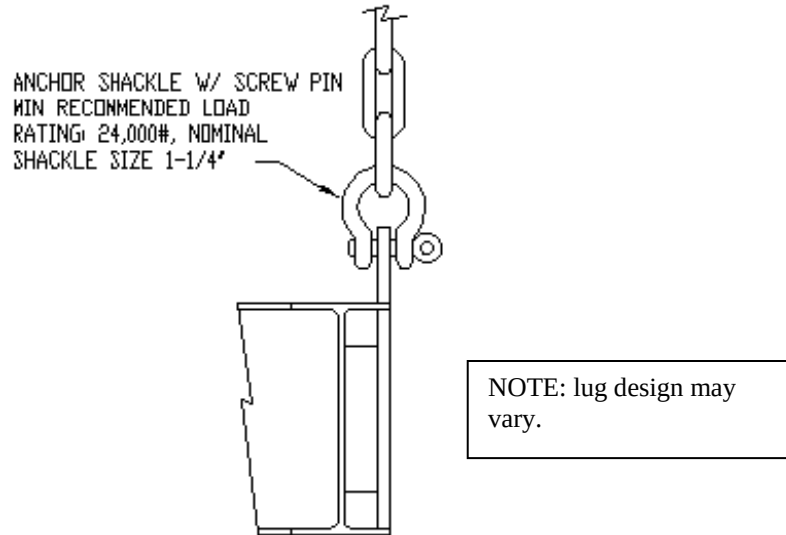

Figure 2
- 3) This unit shall be lifted using the four lifting lugs welded to the base as shown above. Shackles and screw pins shall be provided (by others) as shown in Figure 2 as minimum.